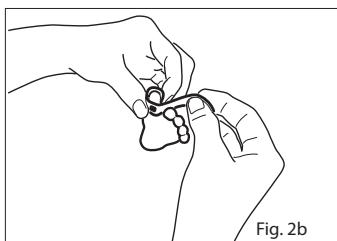

Fig. 2b
- Refer to Fig. 2b. Wrap the adhesive wrap around the toe so the emitter is positioned on the nailbed of the great toe. Complete coverage of the detector window is needed to ensure accurate data.